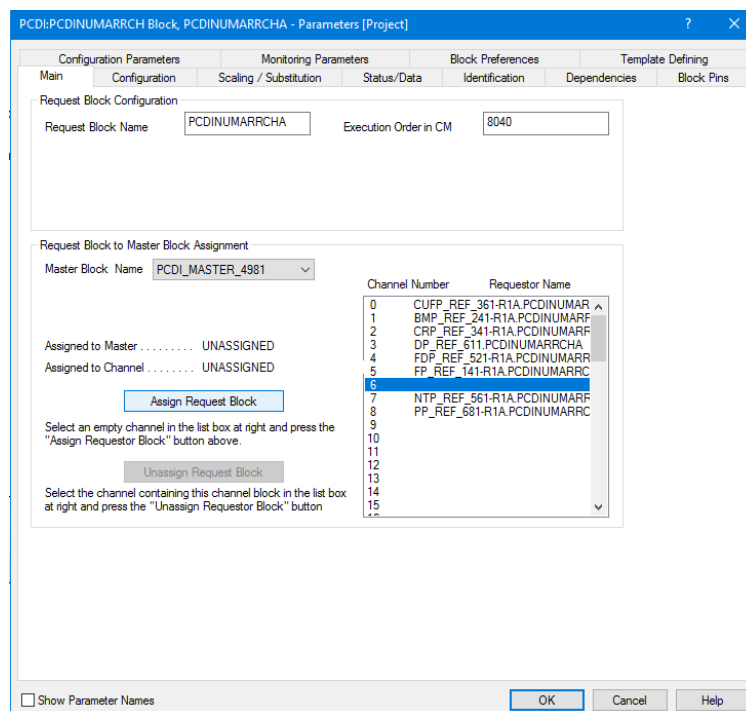

Figure 6: Assigning LUP_REF_421-R1A.PCIDNUMARRCH from output channel six (Step 4a).
3. *SELECTING THE SAME CHANNEL NUMBER AS THE PREVIOUSLY UNASSIGNED PARAMETER, select 'Assign Request Block' on the 'Main' sub-menu of the PCDINUMARRCH 'Parameters' pop-up menu (Figure 6).*